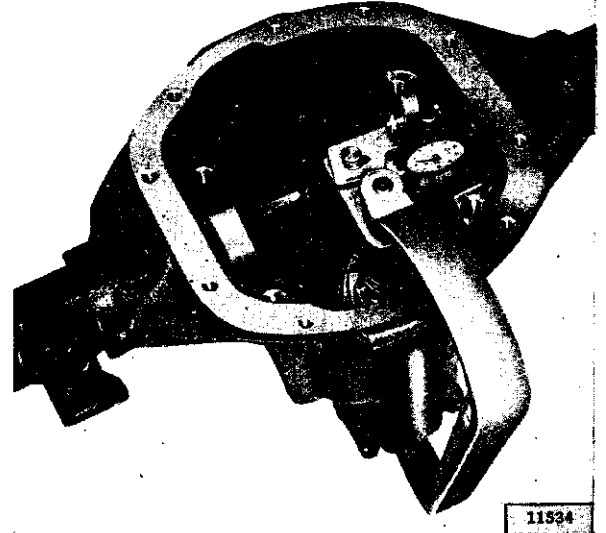

FIG. N-29—CHECKING PINION ADJUSTMENT
Note: Use the "C" type alignment fixture vertically as shown in Fig. N-29, so that weight of jig assembly is always directly centered and supported on pinion shaft center. The function of the fixture is to accurately hold the dial indicator and its
- i. Seat the gauge mount firmly on the pinion head and swing the dial indicator through the differential bearing bore as shown in Fig. N-29.
- k. The end of each pinion is etched with a plus (+) number, a minus (−) number or zero (0) number to indicate the best running position for each particular gear set. This dimension is controlled by shimming behind the inner pinion bearing cup. Therefore if a pinion is etched (+2), this pinion would require .002" less shims than a pinion etched "0". By removing shims the mounting distance is *increased* which is just what a (+2) etching indicates. Or if a pinion is etched (−2), add .002" more shims than would be required if the pinion were etched "0". By adding .002" shims the mounting distance is *decreased* which is just what a (−2) etching indicates.